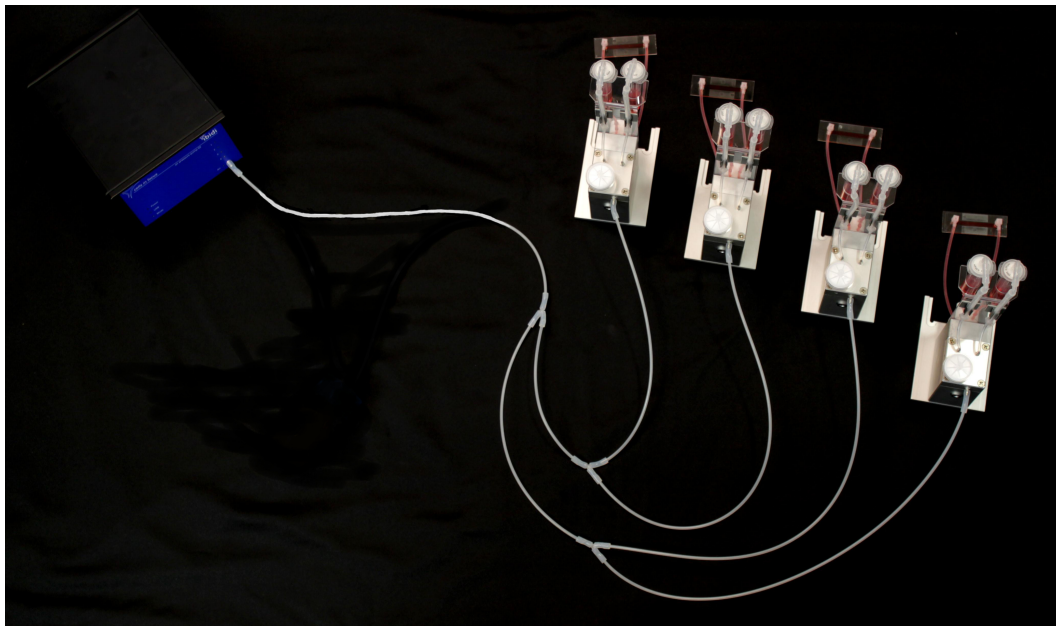

Figure 39 – Connection of the ibidi Pump and four Fluidic Units via the Splitter Set for 4 Fluidic Units.
- Connect the Fluidic Units with the pump via the Splitter Sets as shown in Figure 39 (example with 4 Fluidic Units).